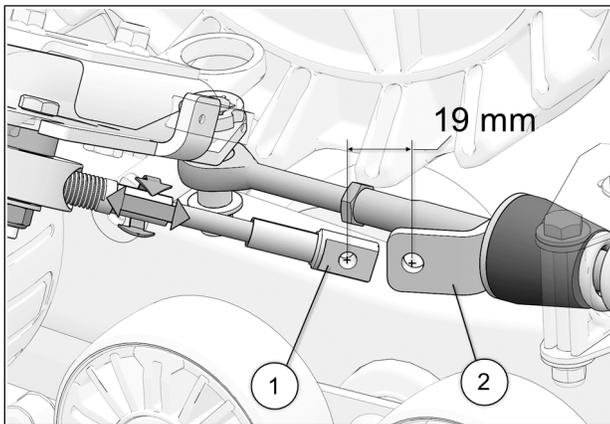

Fig. 26
16. Turn the vehicle's steering wheel to its maximum point of travel on the left. While maintaining pressure on the steering wheel, turn threaded rod to adjust length of cable. See Fig. 26
17. Position cable end hole (1) 19mm [$\frac{3}{4}$ in.] short of support plate (2) mounting hole. See Fig. 26